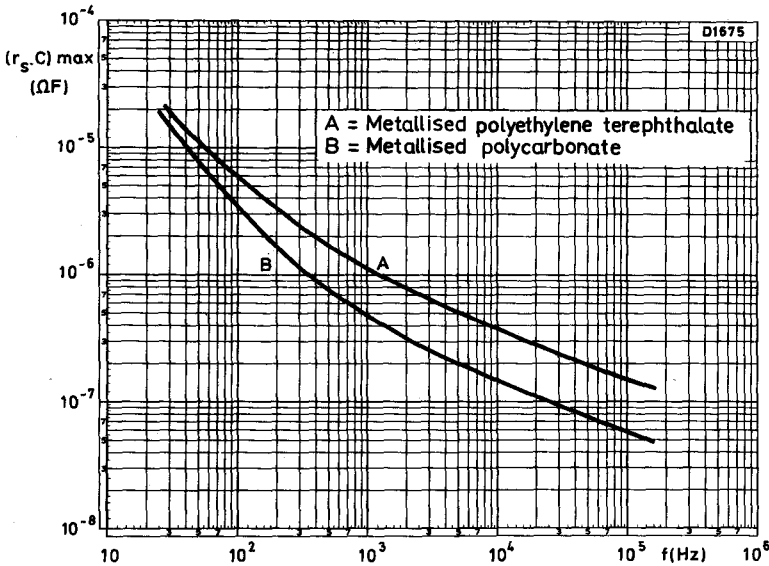

Fig. 2
The term $(r_s \cdot C)$ has been plotted against frequency in Fig.2 (see page 3). The application of equation (2), and the value of $(r_s \cdot C)$ at a particular frequency, will give the maximum power dissipation of the capacitor.
From Fig. 2 the $(r_s.C)$ product is $5 \times 10^{-7} \Omega F$, therefore the power dissipated is